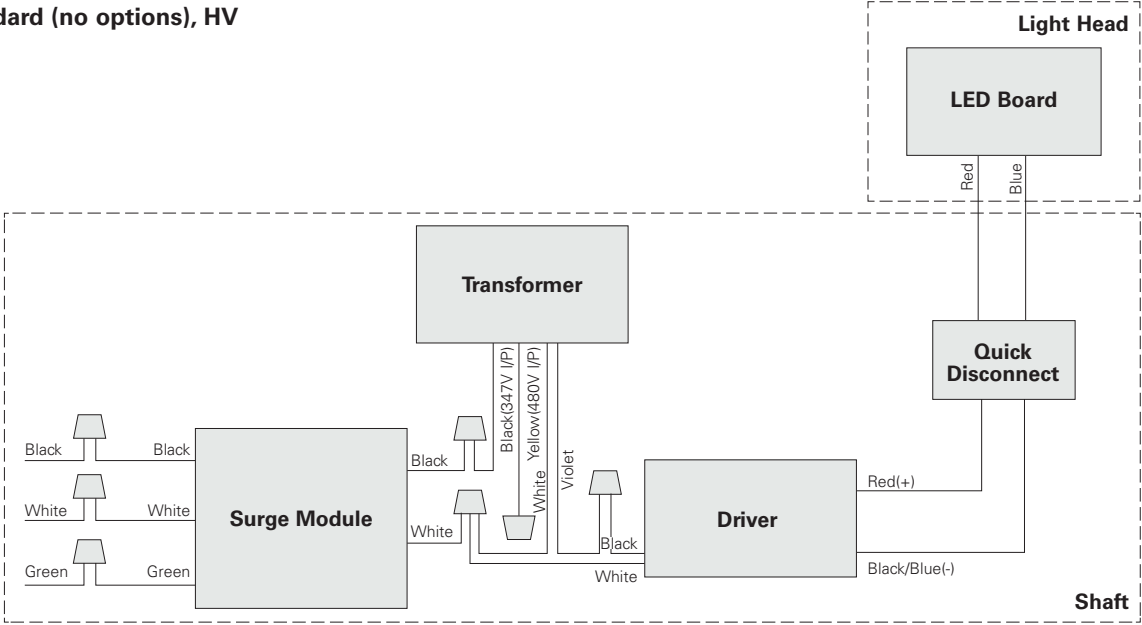

Figure 7A.
9. Make supply wire connections as follows and refer to the wire diagrams in Figure 7A, 7B and 7C if needed.